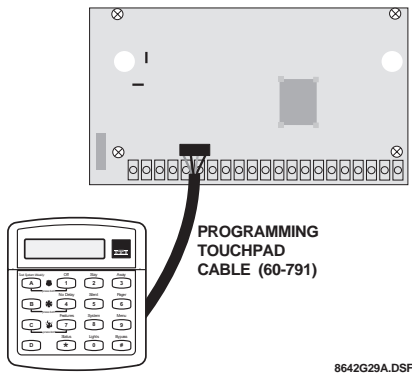

Figure 5. Connecting a Programming Touchpad—Concord Express Shown, Concord Similar
1. With the panel powered up, connect the cable to the Programming Touchpad Header (see Figure 5).
2. Connect the cable plug onto the panel Programming Touchpad Header pins (see Figure 5).